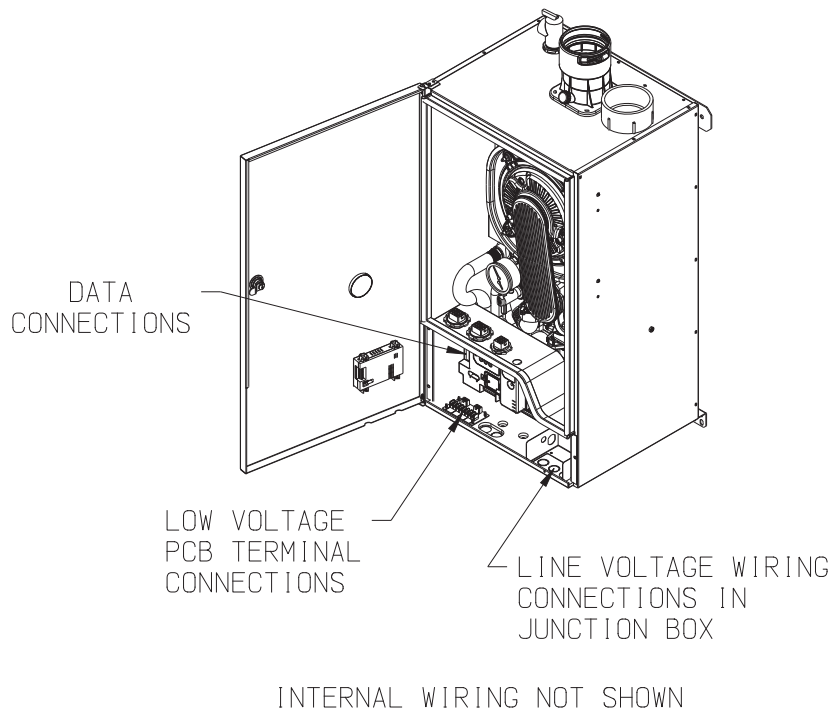

Figure 11.1: Location of High and Low Voltage Field Electrical Connections
Figure 11.1 shows the locations for making both high voltage and low voltage field connections.
1. Line Voltage (120 VAC) Field Connections – Leads for the line voltage connections are located in the junction box as shown in Figure 11.1. Provide a dedicated circuit for the boiler of 15A or greater. A service switch is recommended and is required by many local codes. Locate this switch in accordance with local codes or, in the absence of any, in a location where it can be safely accessed in an emergency involving the boiler. All 120VAC connections to the boiler itself are wire nut connections, except for the ground, which is a screw. The leads are color coded as follows: